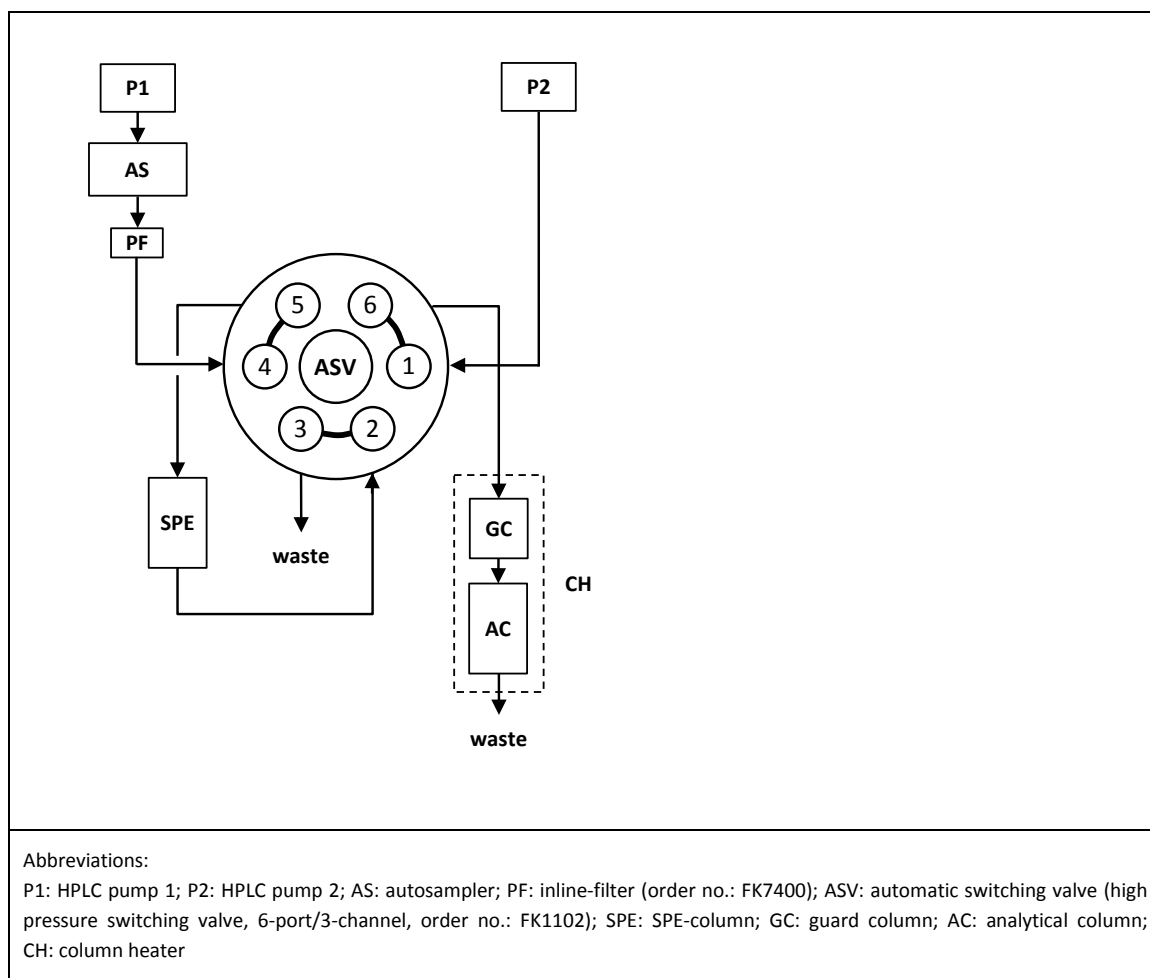

Figure 2: Configuration of the LC system
Afterwards connect the SPE-column (SPE), the guard column (GC), and the analytical column (AC) as shown in figure 2. The guard column and the analytical column have to be installed within the column heater (CH).